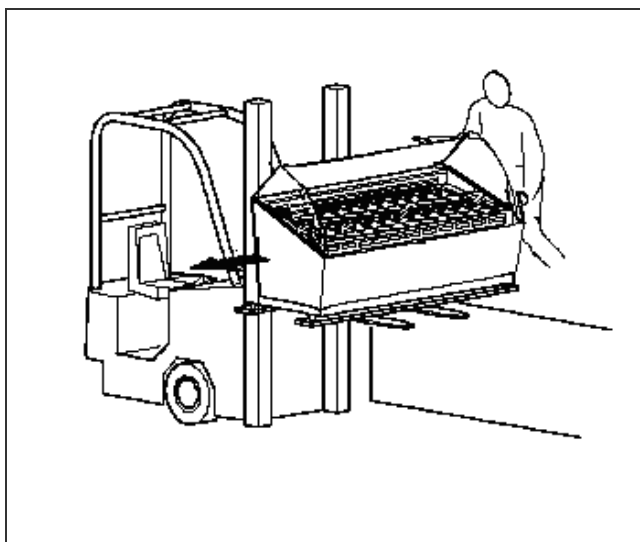

Fig. 1
The SERIAL NUMBER on the plate positioned on the back (operator side) of the display cabinet (see fig.1) must be given when contacting the manufacturer or customer services.
- Ensuring that the forks are completely under the entire display cabinet and centered from side to side on the cabinet (see fig.1 below. You are now ready to lift off of the pallet.